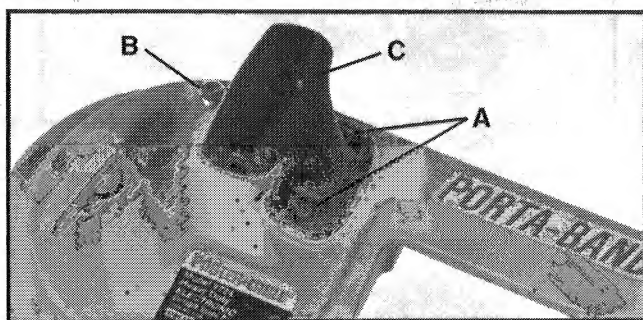

Fig. 6
1. Remove the following items from your band saw (see Fig. 6): two screws (A), knob (C), and screw (B). Store the knob and screw (B) for future use. Screws (A) will be used in Step 5, below.